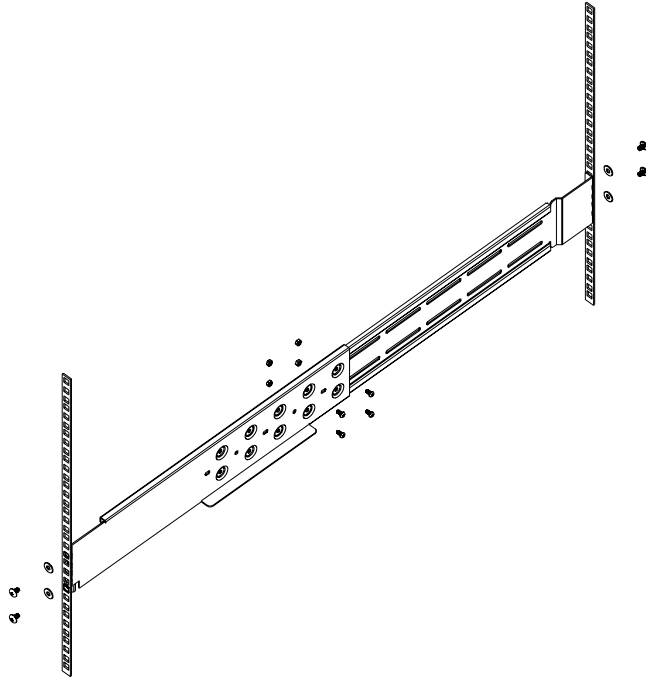

Figure 1
3. Use T5\*8M screws and PW14 washer to install the left slide on Front and rear Posts of Rack as Figure 1.